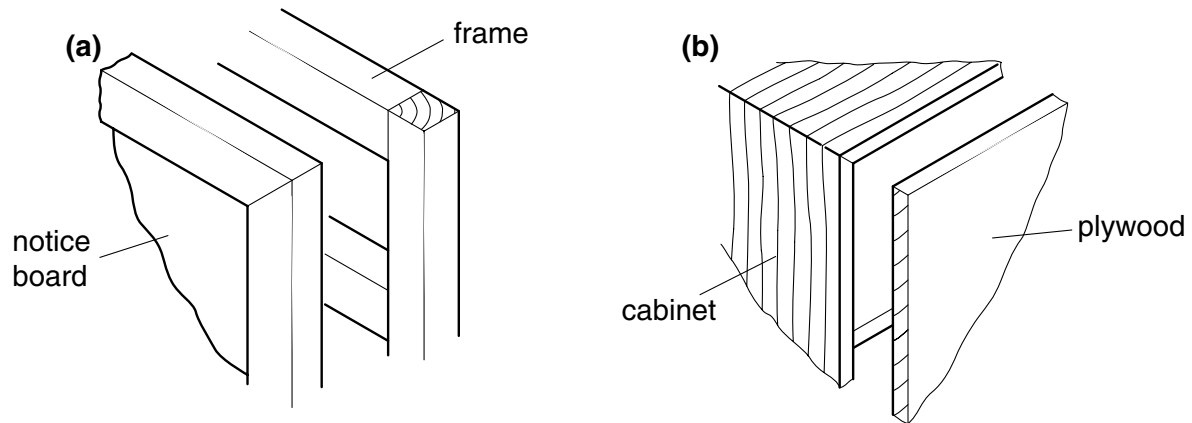

Fig. 1
- 1 Sketch and name a different fixing device for each of the situations shown in Fig. 1.